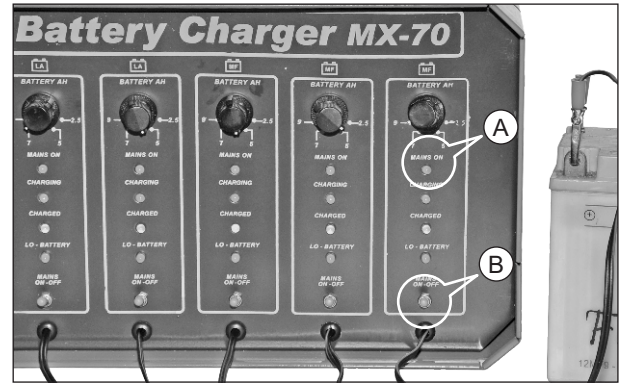

Fig. 5.71
- Switch on the 'MAINS ON-OFF' switch (A) and ensure that the 'MAINS-ON' LED indicator (B) is glowing. (Fig. 5.71) If this indicator is not glowing, then check the main fuse of the charger and replace the fuse if required.